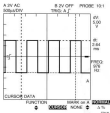

Figure 4.12: Generator produces square wave signal
- I The ScopeMeter display will look like figure 4.12. The generator must produce a square wave signal with an amplitude of 5V and a frequency of 976 Hz (typical values).